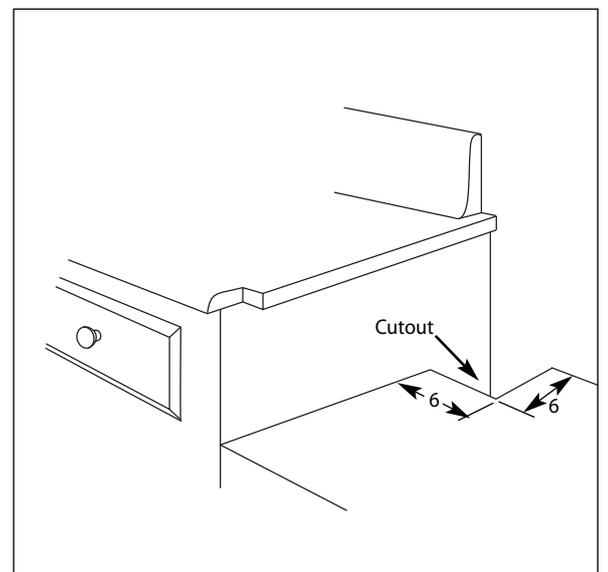

Fig. 6
*If the deck is used, the sides or bottom of the cutout may be solid combustible or non-combustible material. If the bottom is solid, provide a 6" x 6" cutout in the left rear corner for the gas inlet and power cord clearance. See Fig. 6.*